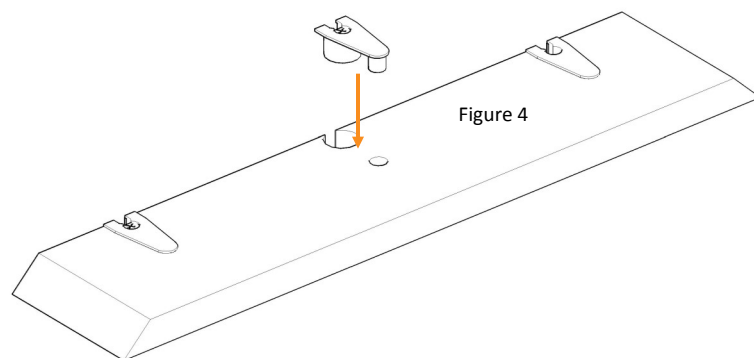

Figure 4
29d. Using a Phillips Screwdriver turn 19mm Outrigger to lock Brace in place as shown in figure 4.
31c. Use screws sent with to secure to partition as shown in figure 4.
32c. Transfer measurement to Toe-Kick and cut to length as shown in figure 4.
34b. Attach the (3)19mm Outriggers to the pre-cut Corner Toe-Kick as shown in figure 4.